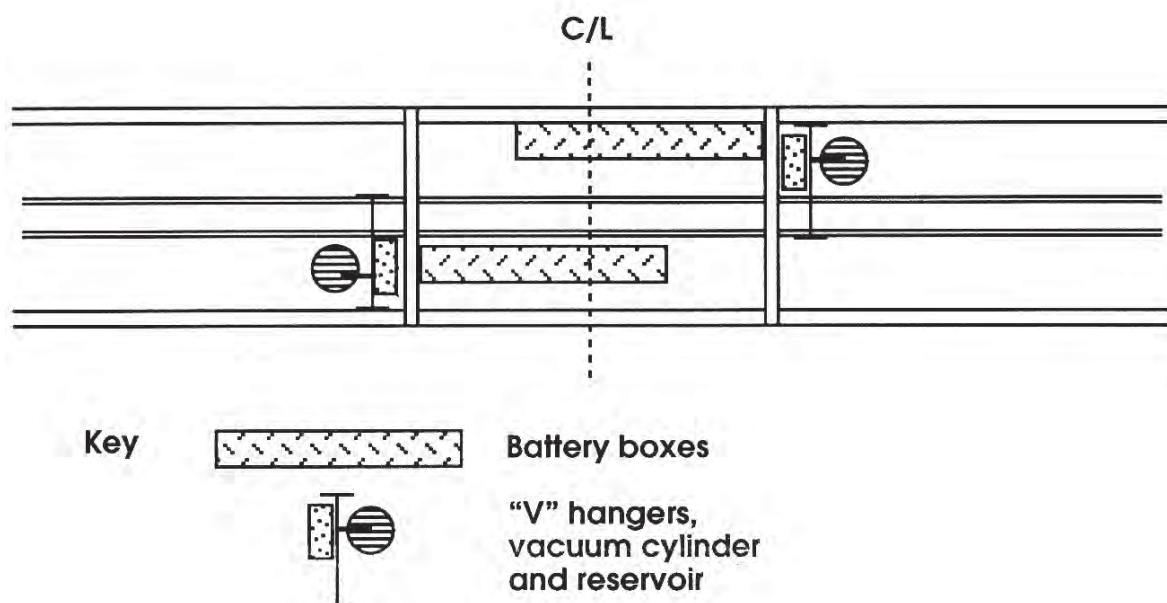

Figure 2 View on underside showing "conventional" style vacuum brake conversion and replacement battery boxes
- Arrangement 1) Using 2 conventional LMS style vacuum cylinders with renewal of some battery boxes (see figure 2), or